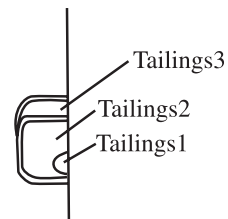

Fig.4
1. When routing the piping and wiring from the left or right side of the indoor unit, cut off the tailings from the chassis in necessary (shown in Fig.4)